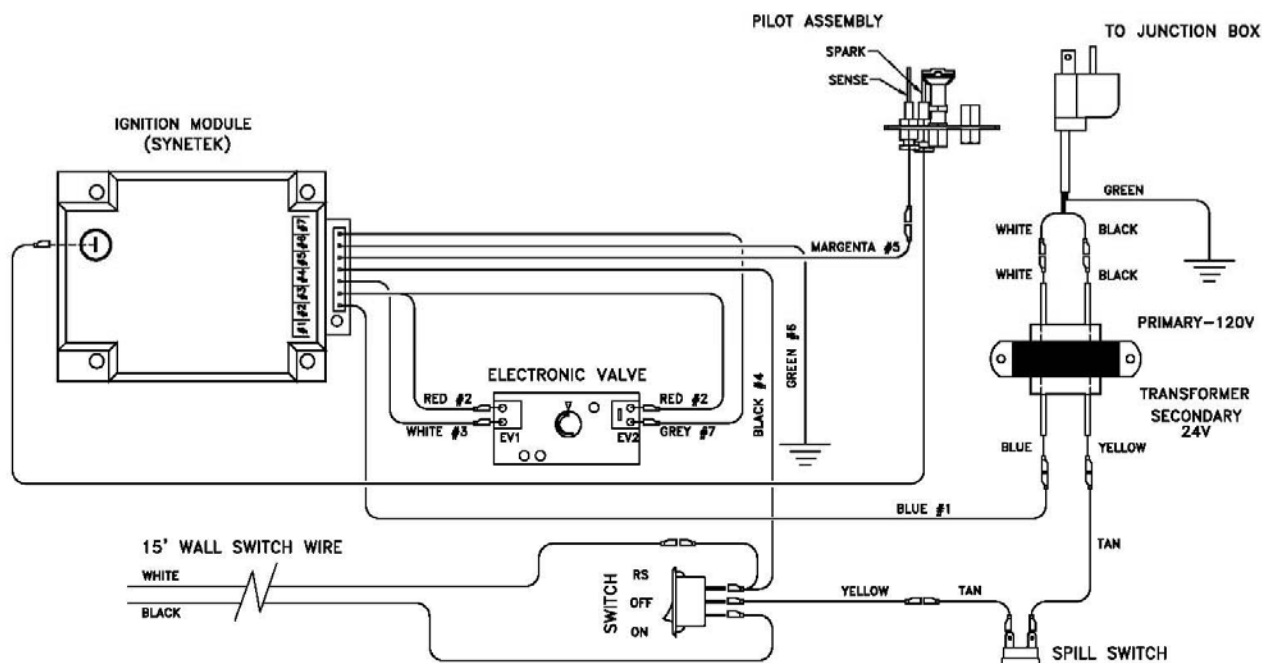

Figure 14: Wiring Diagram for Electronic Ignition System
Position the wall switch. Refer to Figure 14: Wiring Diagram for Electronic Ignition System. Do not extend beyond the 15 feet of wire.
2. Connect the wire terminal from the remote receiver to replace the 15' wall switch connection to the switch as shown in the Figure 14.